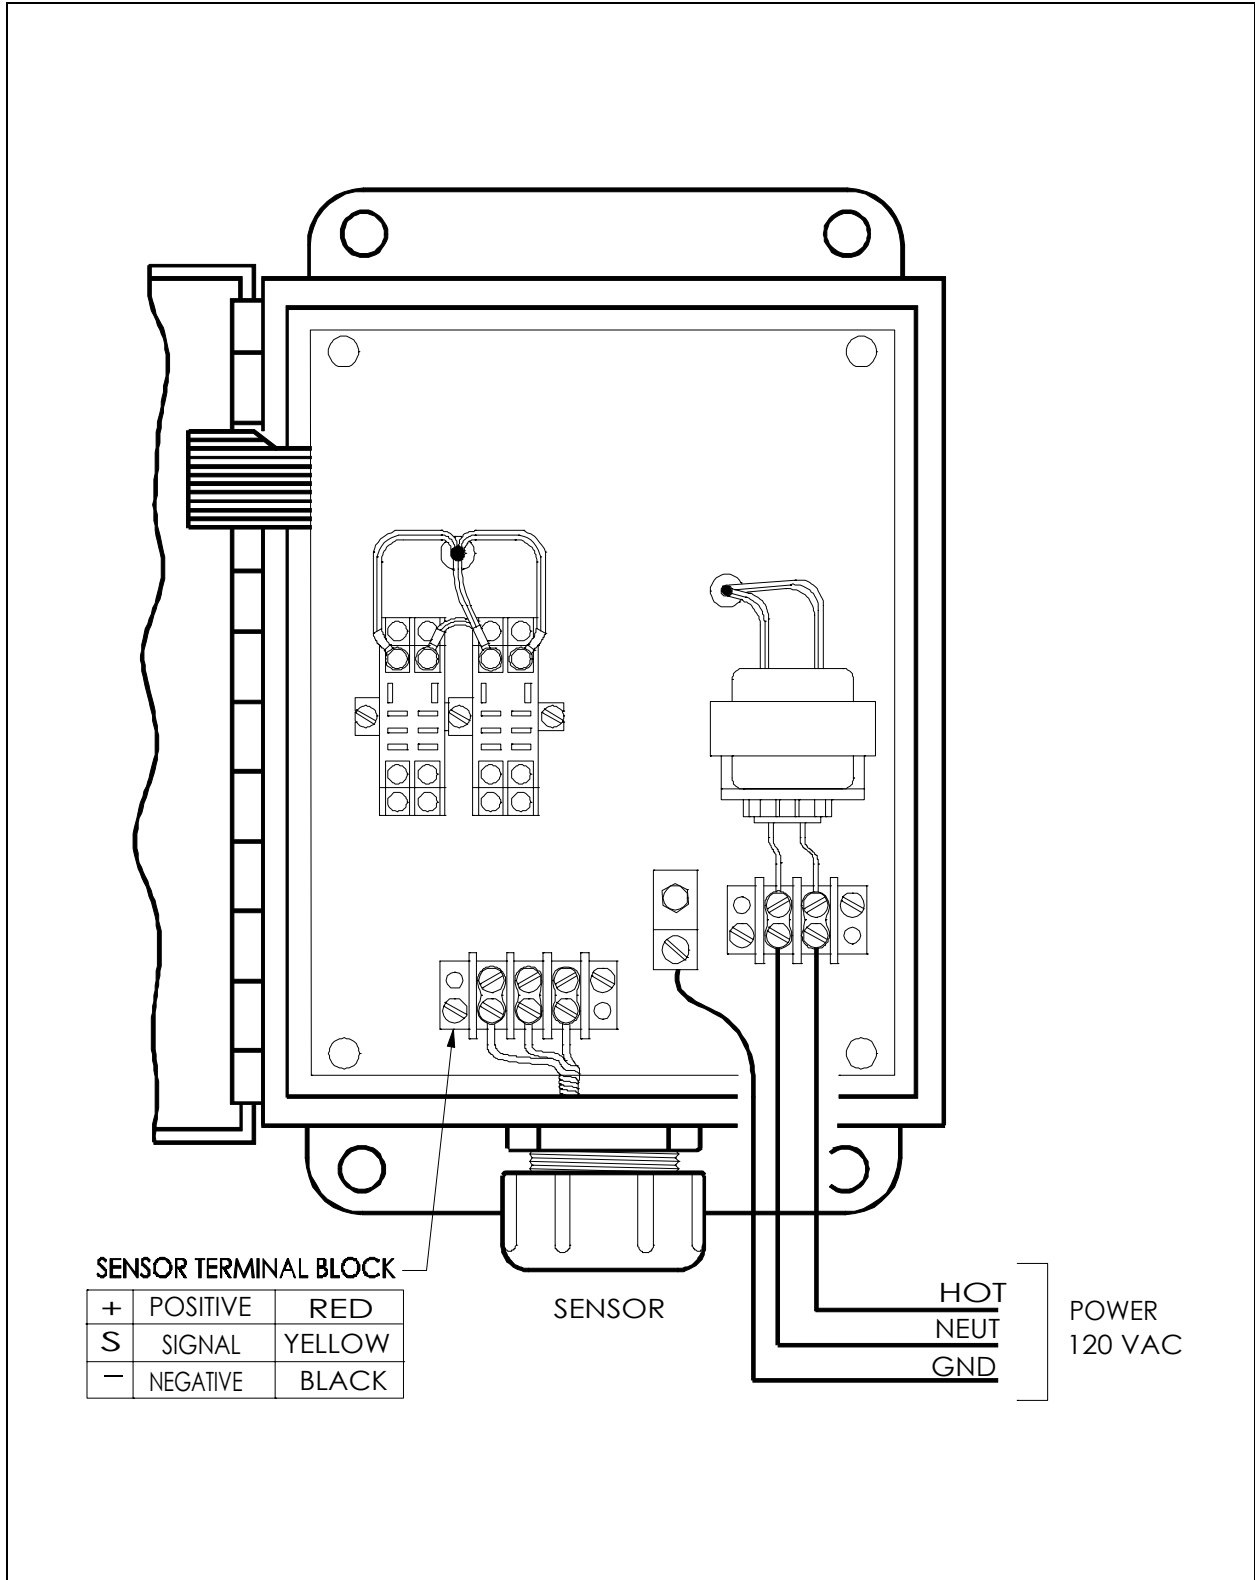
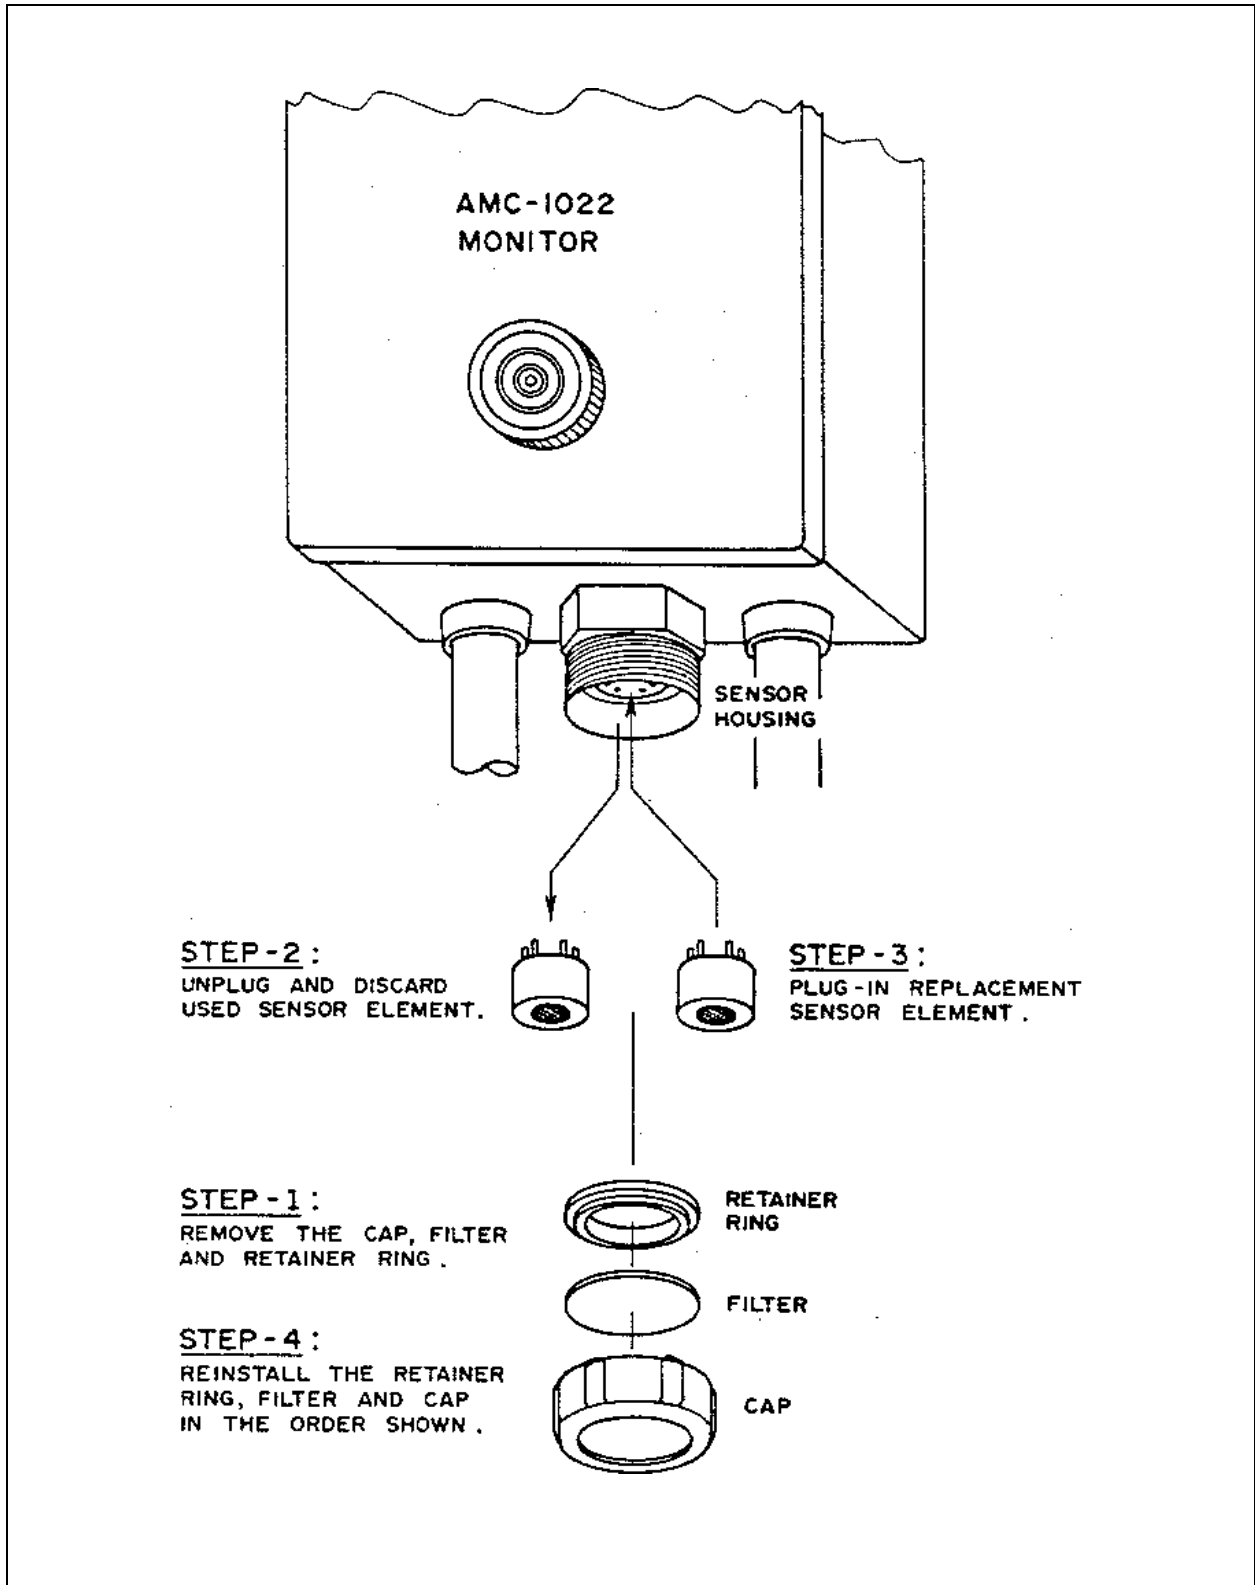

Figure 6: Monitor power connections and sensor wiring.
Figure 12: Sensor replacement procedure.
**POWER SUPPLY:** The monitor operates on 120 VAC, 60 Hz. An internal transformer runs the internal circuitry at low voltages. The power supply connections are made at the power terminal block located at the lower right inside the monitor. (See Figure 6)
**SENSOR:** The sensor is wired to a sensor (-,sig,+) terminal block located on the inner panel of the monitor (see Figure 6). Refer to section 6.3 and Figure 12 for the sensor replacement procedure.
When the calibration is complete remove the calibration chamber and replace the sensor element, retainer ring, filter and threaded cap in that order as shown in Figure 12.
When the sensor needs replacing reorder Part No. listed in the Product Information Section. To replace the sensor element unscrew the cap, including filter and retaining ring, from the sensor housing. Unplug the used sensor element from its socket and discard. Plug in the replacement sensor element. Reinstall the retainer ring, filter and threaded cap. See Figure 12 for sensor replacement procedure.